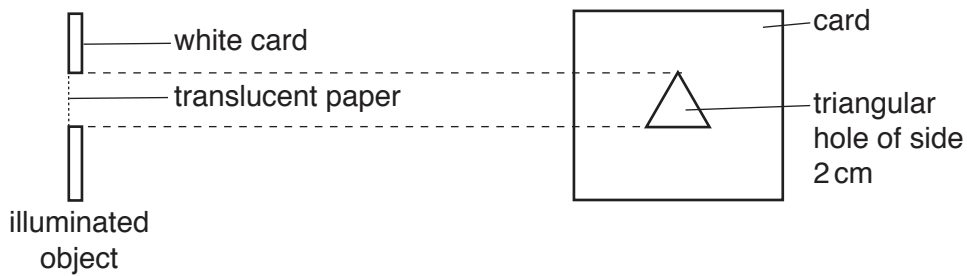

Fig. 3.1
- (iii) an illuminated object with a hole in the shape of an equilateral triangle of side approximately 2 cm. The object is made by cutting a triangular hole in a piece of white card, and covering the hole with translucent paper, as shown in Fig. 3.1. The illumination can be provided by a 12 V, 24 W lamp, or similar, connected to a suitable power source. The lamp filament, the centre of the hole in the object card and the centre of the lens and screen should be arranged to be the same height above the bench.